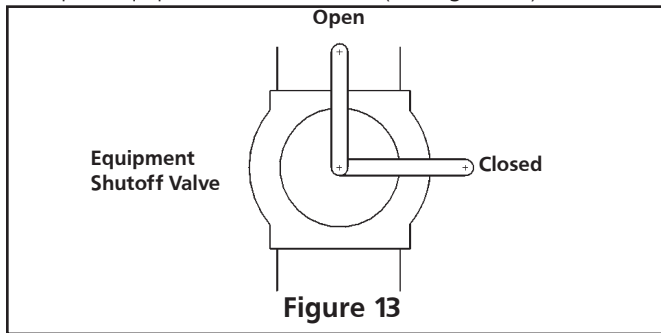

Figure 13
pipng system by closing its equipment shutoff valve during any pressure testing of the gas supply piping system at test pressures equal to or less than 1/2 psi (3.5 kPa). (see figure 13).
3. Open equipment shutoff valve (see figure 13).
5. Check all joints from equipment shutoff valve to control valve (see figure 13). Apply mixture of liquid soap and water to gas joints. Bubbles forming show a leak.